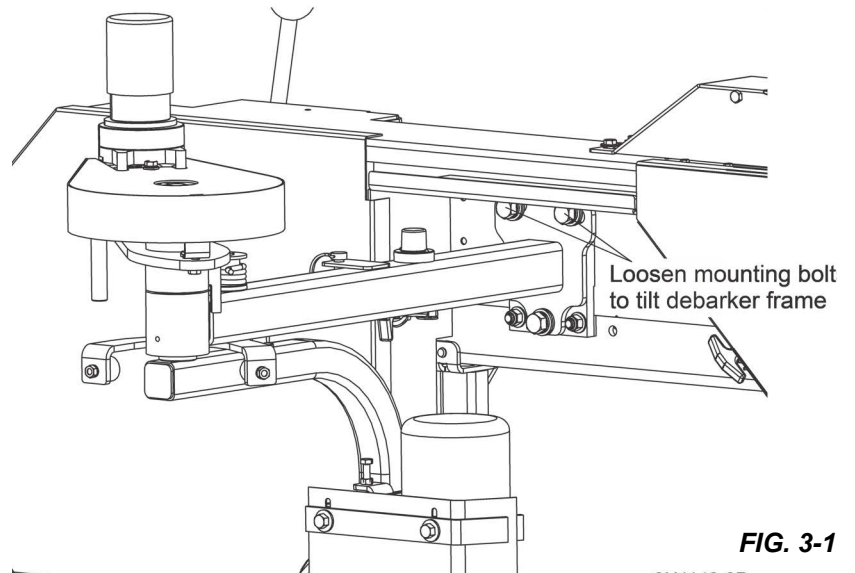

FIG. 3-1
2. Turn the power toggle switch to OFF (0) and lock the control box, to prevent the debarker from being turned on while performing alignment procedures.
4. Adjust the debarker mounts if necessary until the debarker is square with the sawmill blade. **See Fig. 3-1.**